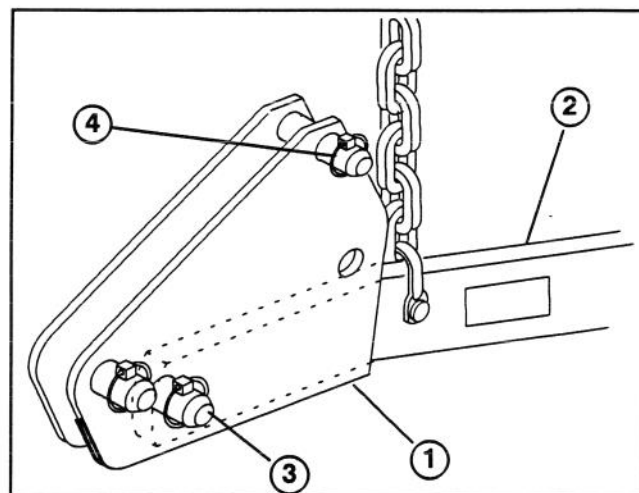

Figure 12
9. Secure lift arms in holsters with mounting pins and lynch pins (included with holster hitch kit), as shown in figure 12.
10. Install rear holster locking pins in storage position, as shown in figure 12.